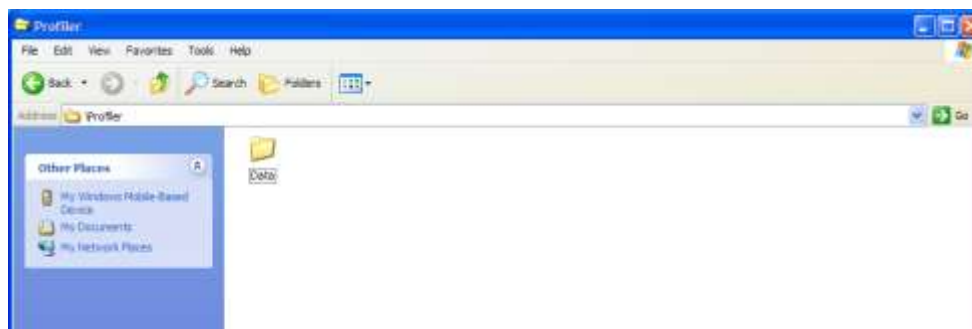

Figure 83: Profiler Data directory window.
5. The user should now select the **Profiler** folder. This will access the Data directory (Figure 83).